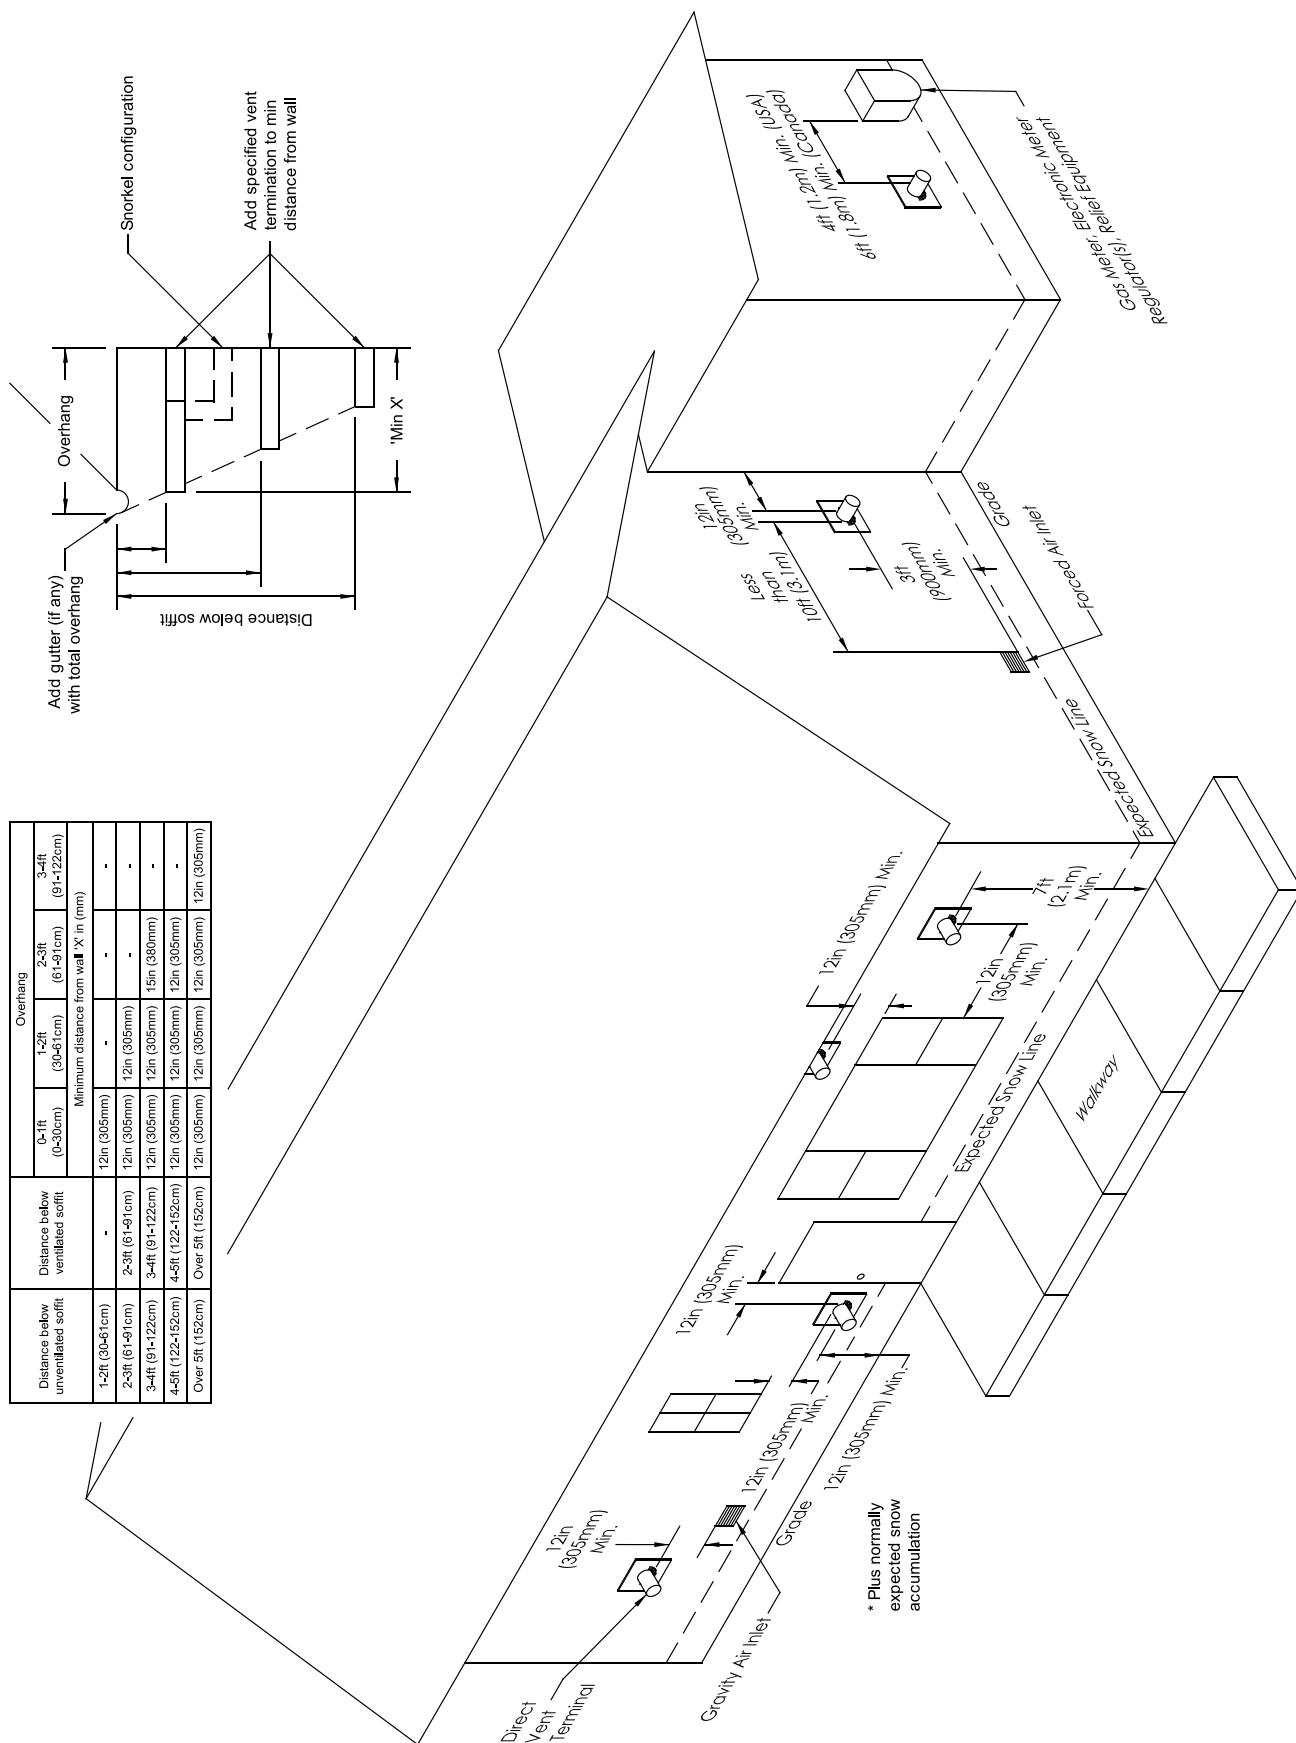

Figure 8-1: Vent Terminal Clearances (Air Terminal not Shown for Clarity)
4. Maintain clearances to vent terminal per Figure 8-1.